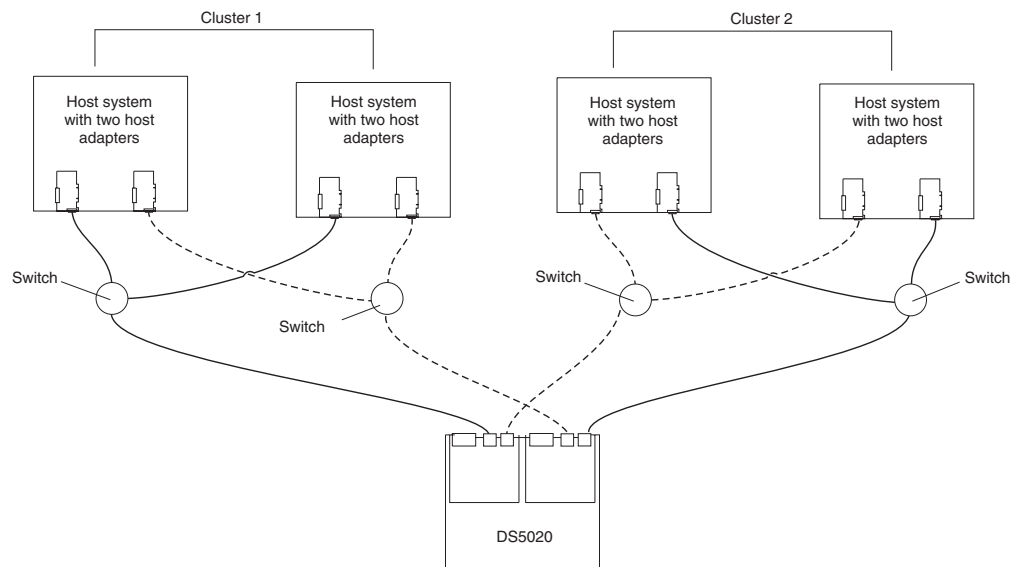

Figure 60. Example of a two-cluster configuration
- Two clusters, as shown in Figure 60 on page 87
Figure 60 shows an example of a two-cluster configuration.